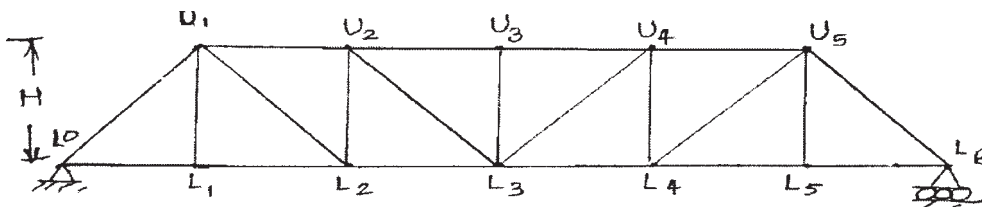

Fig.7 6panels @4m each
**Q7)** Using channel sections, design the members U2-U3, U2-L3 and U3-L3 for the railway steel truss bridge shown in Fig. 7. Also draw a neat sketch of the connection of members at U3. [25]
**Q8)** For the railway bridge shown in Fig. 7, design the top and bottom lateral bracing with the given data. The rails are 850 mm above the c.g. of bottom chord. The chord members are 500 mm deep and 600 mm wide. The end posts are 475 mm deep and 475 mm wide. The web members are 475 mm deep and 240 mm wide. [25]